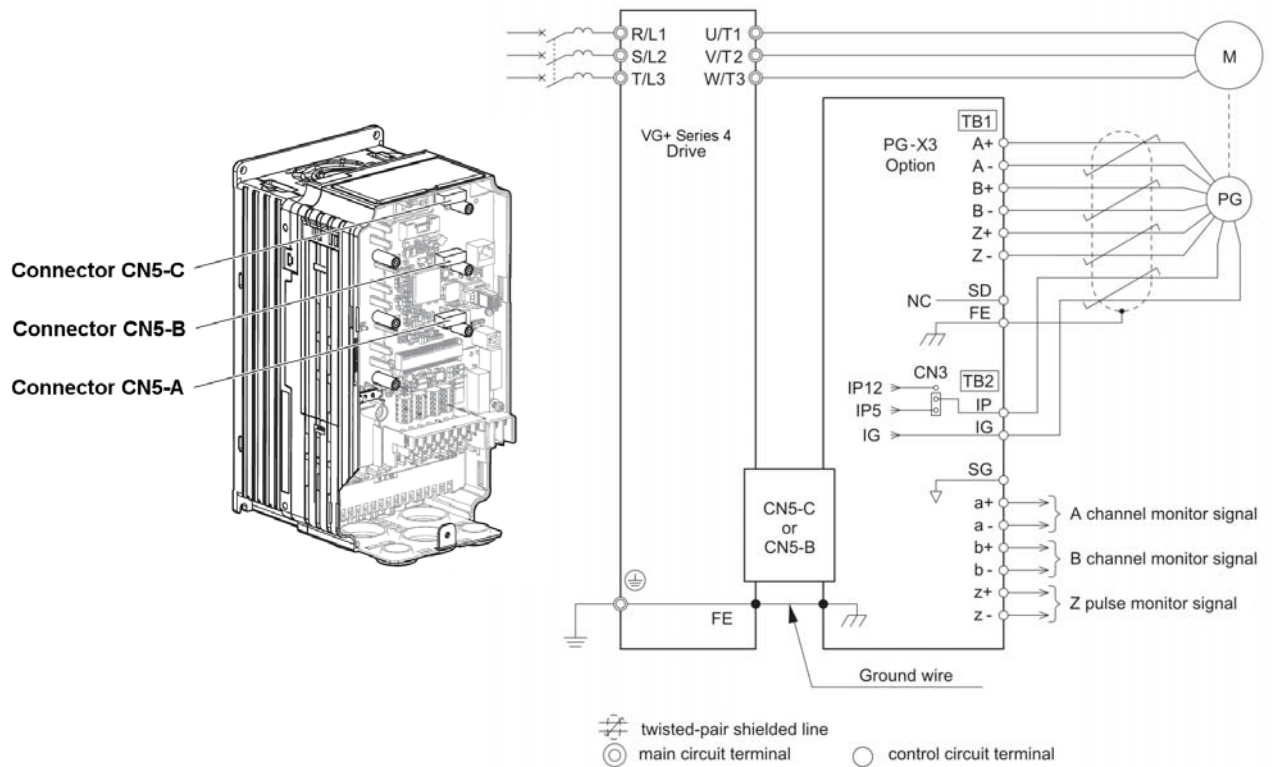

Figure 3-15: PG-X3 Encoder Card Wiring
2. Connect the encoder to the PG-X3 Encoder Interface Card. Refer to Figure 3-15: “PG-X3 Encoder Card Wiring” on page 3-23.